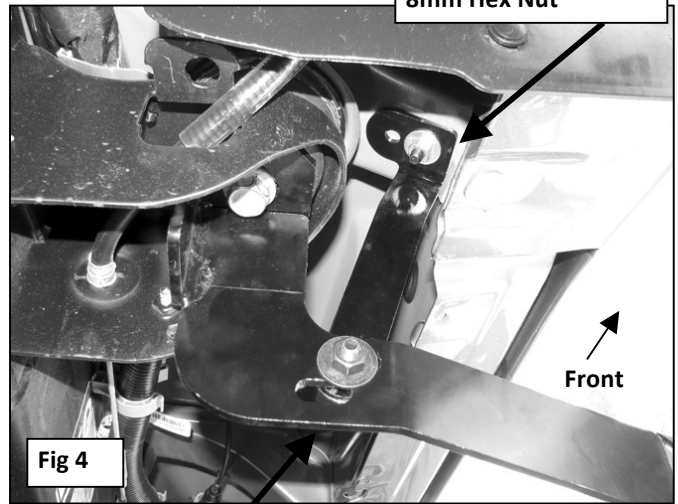

Fig 4
3. Locate the factory hole in the bottom of the floor panel next to the front body mount, **(Figure 2)**. Select (1) 8mm Bolt Plate. Insert the Bolt Plate into the hole, **(Figures 3A & 3B)**. Attach the driver side front Support Bracket to the Bolt Plate with (1) 8mm Lock Washer, (1) 8mm Flat Washer and (1) 8mm Hex Nut, **(Figure 4)**. **IMPORTANT:** Rotate Bolt Plate 90-degrees to the direction of the slot, **(Figure 3A)**. Bolt the lower end of the Support Bracket to the back of the Front Bracket with (1) 10mm x 30mm Hex Bolt,
- (2) 10mm Flat Washers, (1) 10mm Lock Washer and (1) 10mm Hex Nut, **(Figure 4)**. Do not tighten hardware.